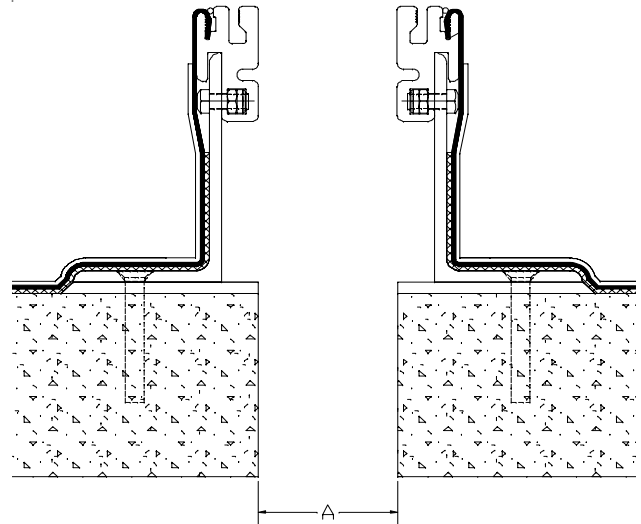

Figure 7
**STEP 8.** After the Flashing Sheets have been installed, lay a second layer of deck waterproofing material over the Flashing Sheets so that the Flashing Sheets are sandwiched along the concrete slab and the side of the base members (see Figure 7). Install the deck waterproofing material in accordance with its manufacturer's instructions.